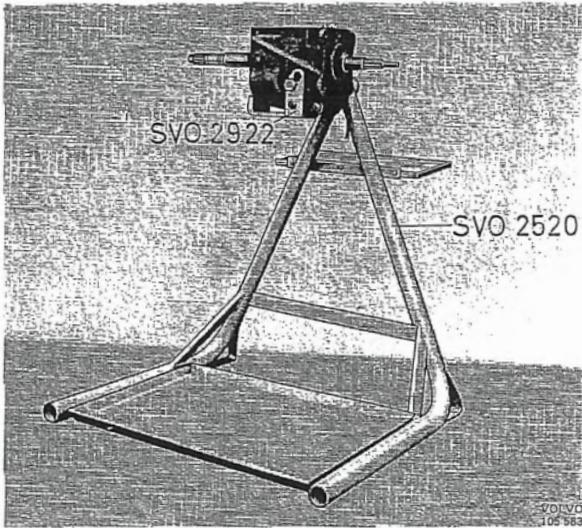

Fig. 4-13. Gearbox in fixture
- 2922 Fixture for gearbox when disassembling and assembling (used together with 2520, see Fig. 4-13)
1. Fit fixture 2922 in stand 2520. Place the gearbox in the fixture, see Fig. 4-13.